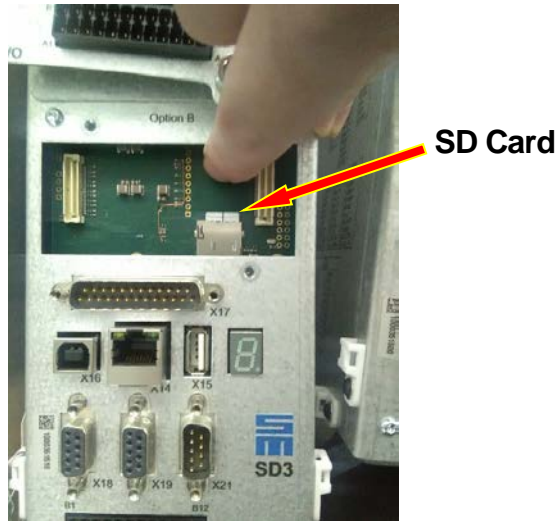

Figure 10
- Place your finger on the circuit board in front of the SD card. When the SD card is released it will spring back with enough force to move several inches. See Figure 10.